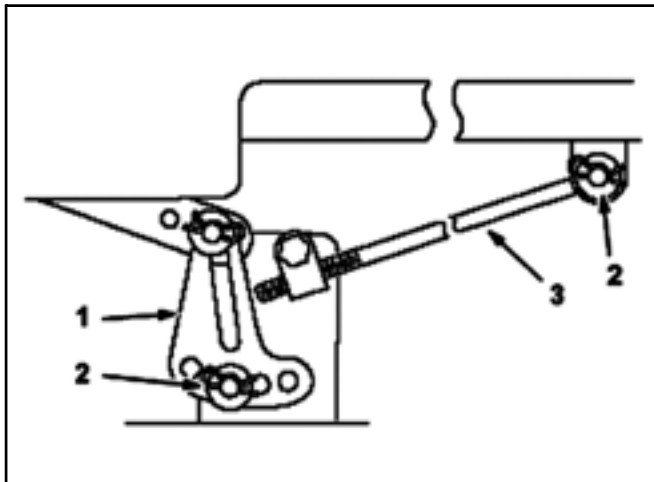

Figure 110
- Remove the hairpin cotter and washer from the adjusting rod (Figure 110) on each side of the mower.
**Note:** Before removing the mower, make a note for which holes are used in the leveling brackets (Figure 110).
6. Remove the hairpin cotter and washer at the mower leveling brackets (Figure 110) on each side of the mower. Note which hole the leveling bracket is mounted in for future installation. Slide the brackets off of the mounting pin.
5. Attach the adjusting rod to the tractor with the washer and hairpin cotter (Figure 110) on each side of the mower.
6. Slide the leveling brackets onto the mounting pins and secure them with the washers and hairpin cotters (Figure 110).